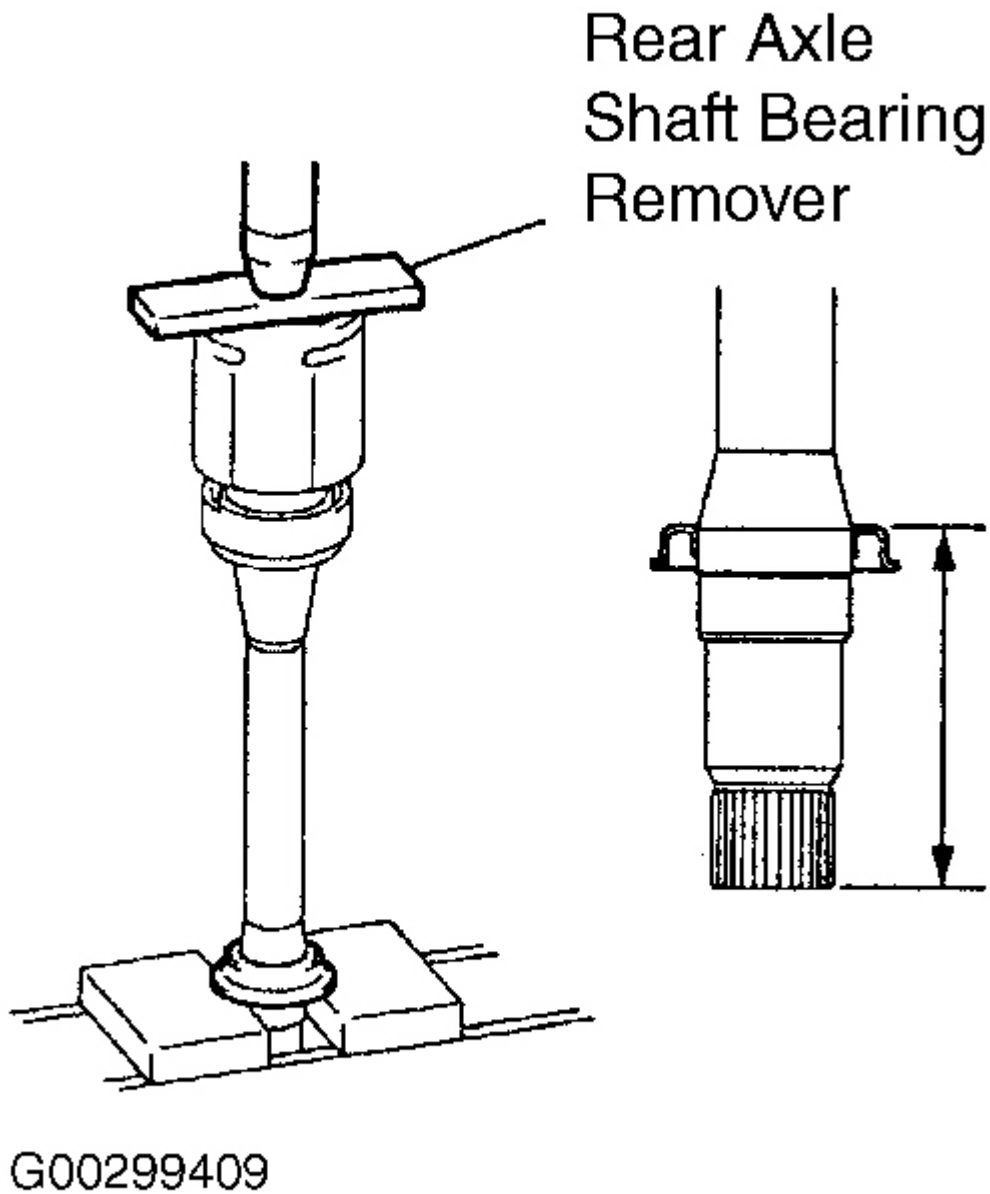

Fig. 6: Installing Right Axle Shaft Dust Cover
5. Using a press, install NEW dust cover onto axle shaft. Right-side (transaxle side) dust cover must be positioned 3.39-3.43 in. (86.0-87.0 mm) from end of axle shaft. See **Fig. 6**.